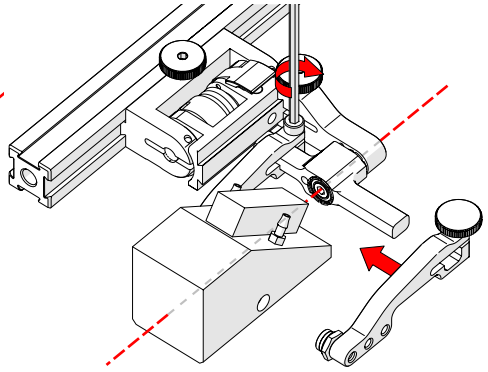

Fig. 47 - Place wedge
7. Position the wedge on the inner probe holder arm (Fig. 47).